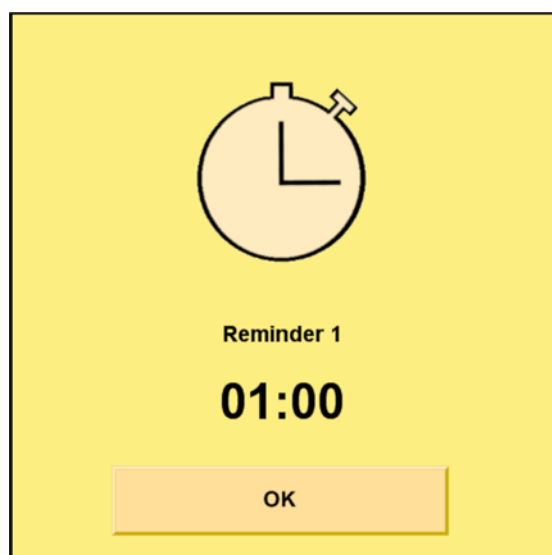

Figure 10 - 5: Reminder Communication
1. Press **OK** to dismiss a Reminder (Figure 10 - 5: Reminder Communication).